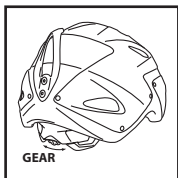
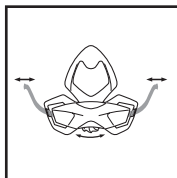

Figure 3
Figure 4
- Find the In Form gear located at the back of your head at your occipital lobe (Figure 3). With your thumb, press the In Form dial upward and turn clockwise to tighten the fit. To loosen the fit, simply press the In Form dial upward with your thumb and turn counterclockwise (Figure 4). The fit system should be snug, but not uncomfortably tight.